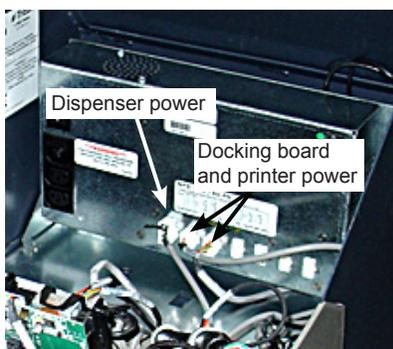

Figure 21. Power supply external DC connections
7. Refer to Figures 21 and 22. Connect the DC power cables from the printer and docking board into any of the six (6) available common 8-pin DC output connectors on the power supply.
8. Refer to Figures 21 and 22. Connect the DC power cable from the dispenser to the to the single 10-pin DC output connector on the power supply (far left).